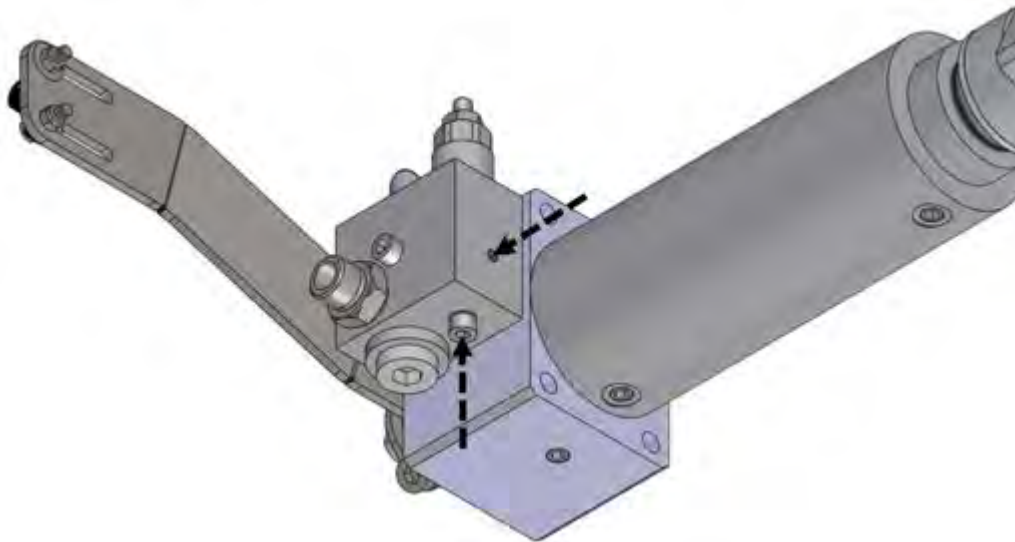

Figure 27. Attaching the oil pressure hose
5. Screw the oil pressure hose into either of the outputs shown in figure 27 and plug the unused output. Do not tighten excessively.